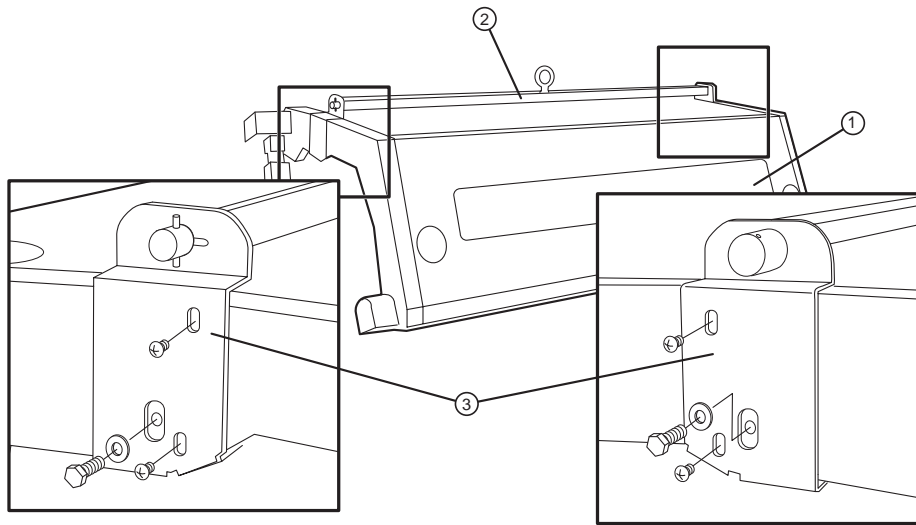

Figure 1-6 Attaching the capture bar and brackets to the bridge.
3. Remove the two (2) screws, left and right, located in the top portion of the bridge. Refer to Figure 1-6.
①—Bridge. ②—Capture bar. ③—Two capture bar brackets.
4. Using the bridge screws, attach the left bracket to the bridge. Refer to Figure 1-6.
5. Using one of the two (2) 9/16" bolts and washers provided, secure the bracket to the side of the bridge. Refer to Figure 1-6.
8. Using the bridge screws, attach the right bracket to the bridge. Refer to Figure 1-6.
9. Using the remaining 9/16" bolt and washer provided, secure the right bracket to the side of the bridge. Refer to Figure 1-6.
8. Remove the 9/16" bolt and washer from the capture bar bracket, left and right (see Figure 1-6).
①—Crane. ②—Capture bar brackets. ③—Bridge. ④—Imagesetter.
9. Remove the two (2) screws from the capture bar bracket, left and right (see Figure 1-6). Remove the side brackets and return the screws to the sides of the bridge.